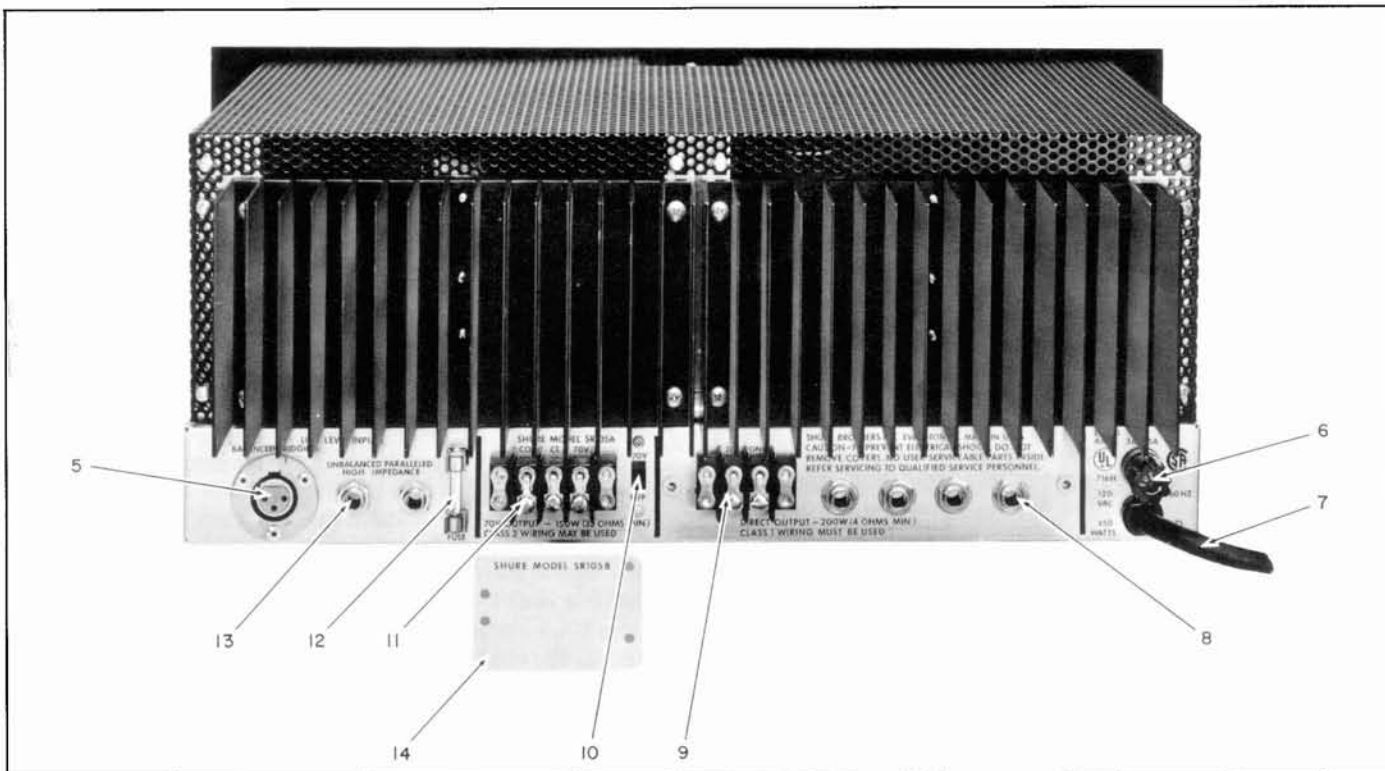

FIGURE 2. SR105 POWER AMPLIFIER REAR PANEL
Three LINE LEVEL INPUTS Connectors are located on the rear panel of the Amplifier (see Figure 2, Page 2). A professional, three-pin, female audio connector (5)* provides a balanced bridging, high-impedance input connection. Unbalanced, high-impedance input connections are provided by two standard 1/4" phone jacks (13) wired in parallel.
Four standard 1/4" phone jacks (8) and one two-terminal barrier strip (9) on the rear panel of the Amplifier provide direct-coupled speaker output connections (see Figure 2, Page 2). All connectors are wired in parallel and provide for simultaneous connection of a number of speaker systems. A three-terminal barrier strip (11), labeled 70V OUTPUT (SR105A Amplifier only), provides for connection to the 70-volt output of the Amplifier (see Figure 2, Page 2). This output is present only when the 70V-OFF Switch (10) is set to the 70V position.